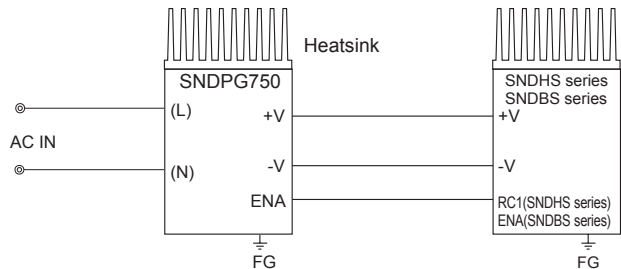

Fig.3.1 Standard connection method
■ To use SNDPG Series, connection shown in Fig.3.1. Through this connection, DC output voltage can be obtained from AC input voltage. AC input voltage and DC output voltage are not insulated.
■ For connecting the SNDHS series (SNDHS50B / 100B / 250B) and SNDBS series, see Fig.3.1.